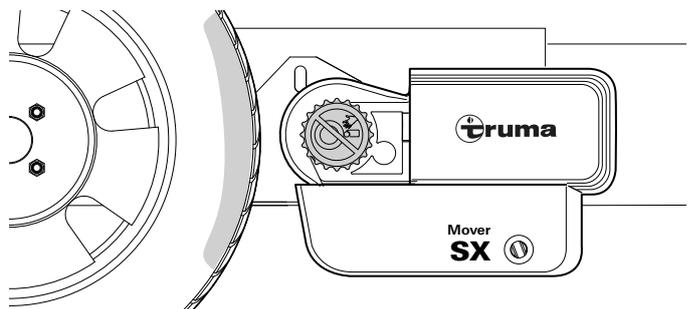

Fig. 25
- The gap between the drive rollers and tyres is 20 mm on both sides (Fig. 25). See Kapitel 6.1 to check the correct gap between the tyres and the drive rollers